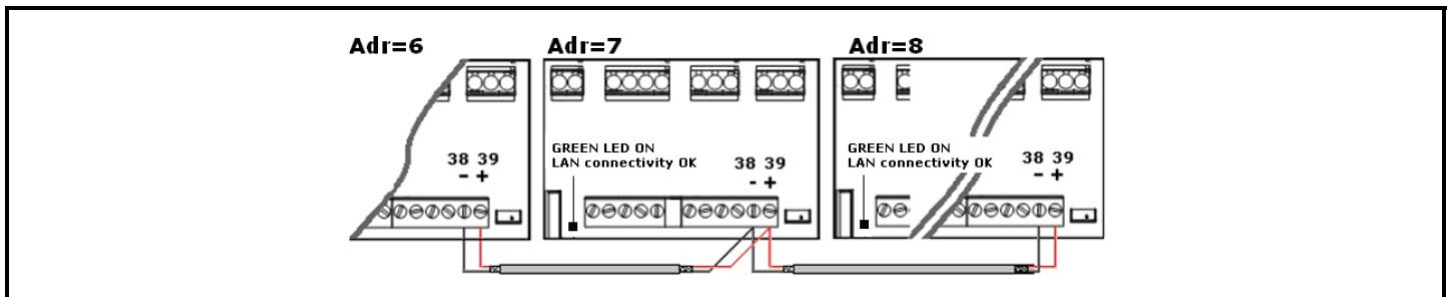

Figure 5-3 - LAN Connection
1. Connect a shielded cable between terminals **38 [-]** and **39 [+]** for a **maximum of eight (8) sections**.
2. The **Adr** parameter is the number that identifies each electronic board. **Address duplication is not permitted**; in this case, synchronized defrost and the communication with the monitoring system are not guaranteed (the **Adr** is also the MODBUS address). See Figure 5-3 for an example of a properly configured LAN connection: